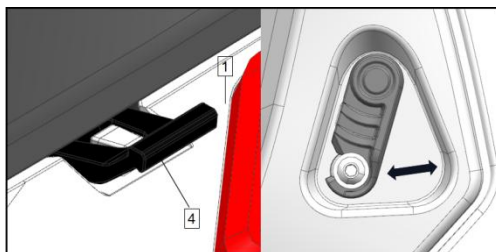

Fig. 30
1. Before clicking, turn the plastic fastener of the panel (position 2, Fig. 30) to unhook the fastener from the locking screw (position 3, Fig. 30).
(Pose 4, Fig. 30)